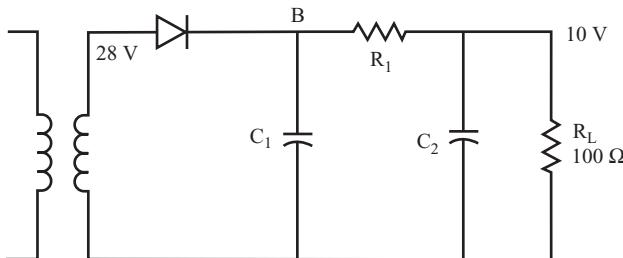

FIGURE 11.40
- 19** The output from the secondary coil of the circuit shown in Figure 11.40 is a 28 V_{rms}, 60 Hz sine wave. For this circuit, you need 10 volts DC across the 100-ohm load resistor.
- 20** Figure 11.41 shows the waveform after the diode has rectified the sine wave for the half-way rectifier circuit shown in Figure 11.40.
- 21** The average DC voltage at point B in the circuit shown in Figure 11.40 is approximately 90 percent of the peak value of the sine wave from the secondary coil, or $V_B = 0.9 \times 40 \text{ volts} = 36 \text{ volts}$. R_i and R_L act as a voltage divider to reduce the 36-volt DC level to the required 10 volts DC at the output.